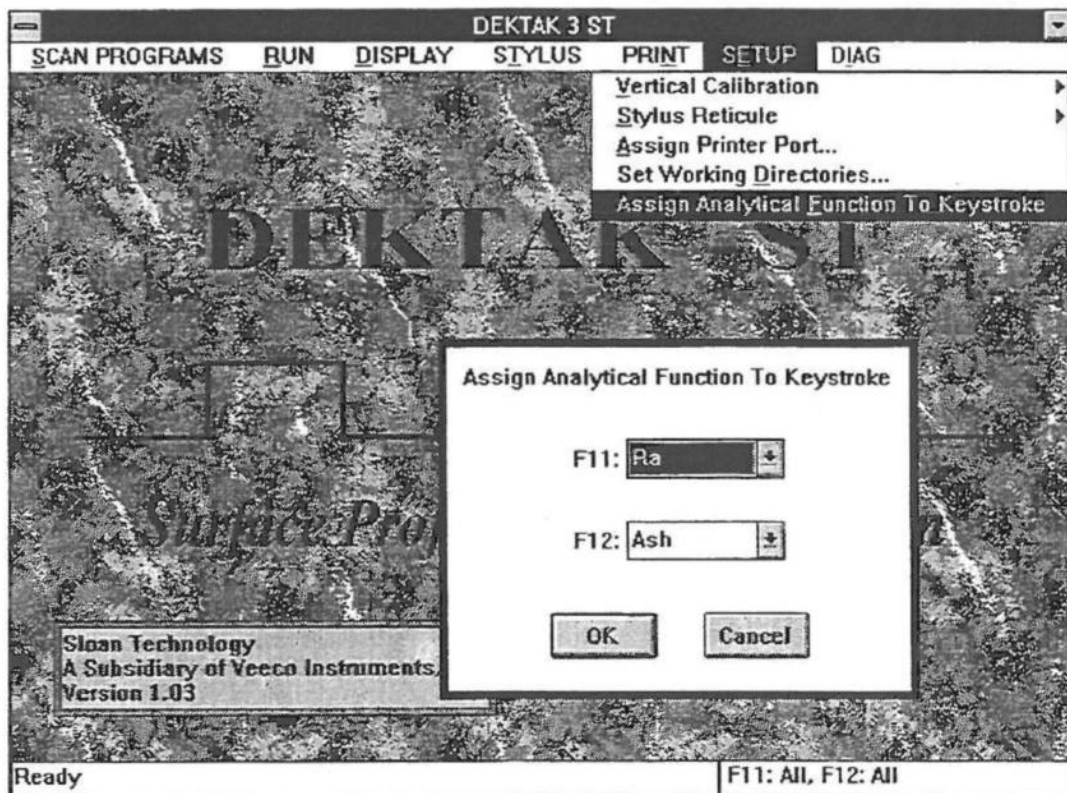

Figure9 - 1 Assign Analytical Function To Keystroke
1. Click on "SET-UP" and click on "Assign Analytical Function To Keystroke" from the set-up menu a dialogue box will be displayed (see Figure9 - 1).